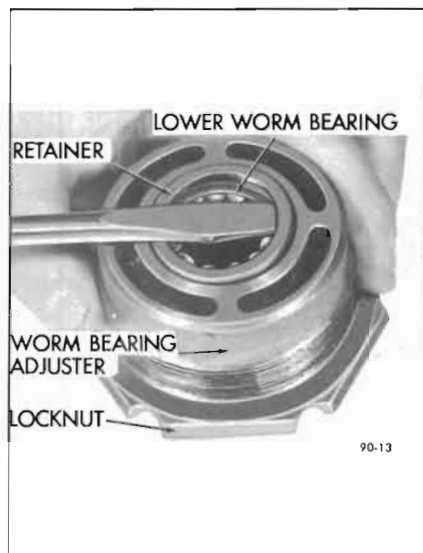

Figure 90-13—Removing Lower Worm Bearing Retainer
9. Remove lower worm bearing from adjuster by prying retainer out with a screwdriver. See Figure 90-13.
10. Remove ball return guide clamp and guides from ball nut. Turn ball nut over and rotate worm shaft back and forth until all balls (50) drop out into a clean